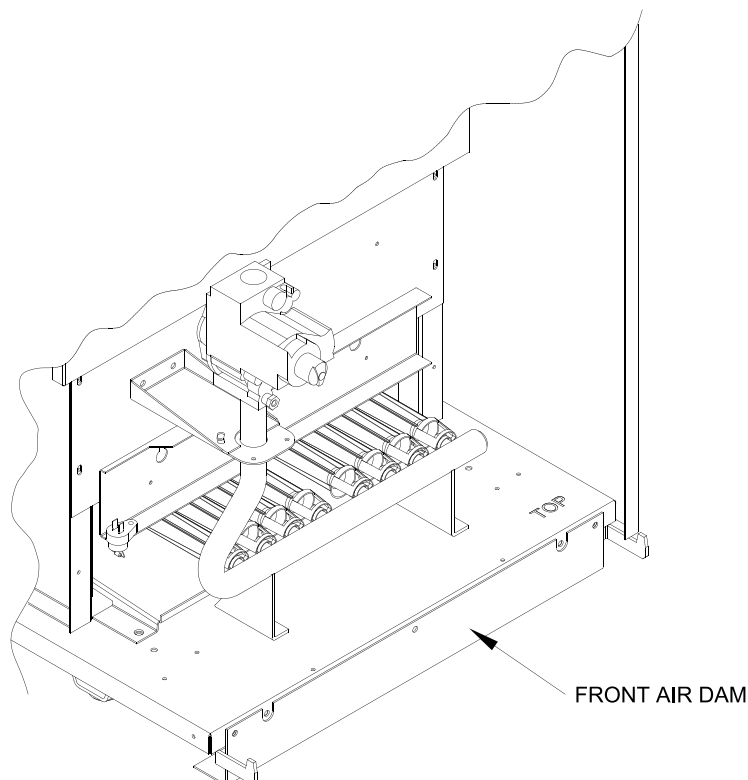

Figure 2-a
5. Assure that the front air dam (applicable to 5-section thru 9-section boilers only) is in place and undamaged. See Figure 2-a.
Models ES25, ES26, ES27, ES28 and ES29 only. Verify Front Air Dam is installed and undamaged (Figure 2-a). A missing or damaged Front Air Dam will negatively affect the performance of this boiler, which can cause serious property damage, personal injury or death.